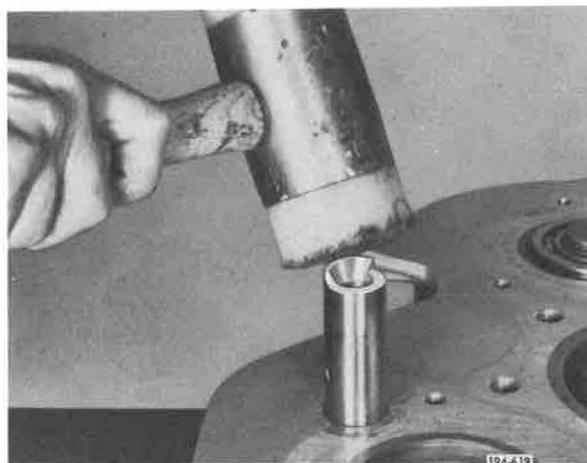

Figure 5-476. Installing Shaft
5. Drive reverse idler shaft part way into rear case with a soft mallet, being sure that reverse idler gear, bearing, and thrust washers are in proper alignment for shaft to go through them. See Figure 5-476.